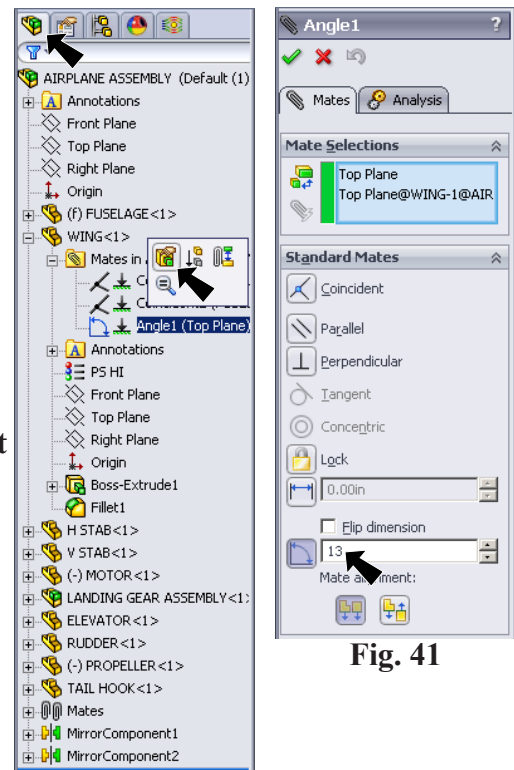

Fig. 40
- Step 2. Click the **Feature Manager** tab  in the Feature Manager, Fig. 40.
- Step 3. Expand **WING** and expand **Mates in AIRPLANE ASSEMBLY**, Fig. 40.
- Step 4. Click **Angle1** in the Feature Manager and click **Edit Feature**  from the Content toolbar, Fig. 40.